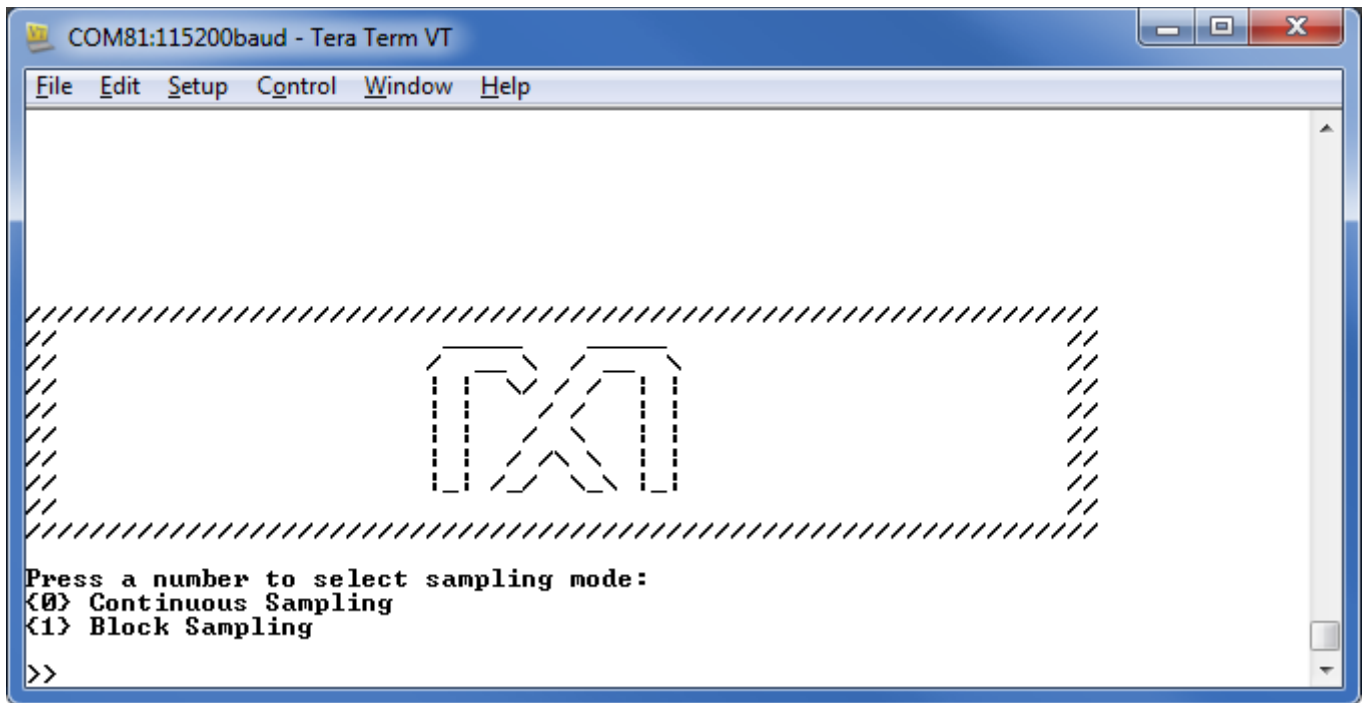

Figure 3. Terminal program main menu.
8. The MAXREFDES38# software will display a menu (**Figure 3**)